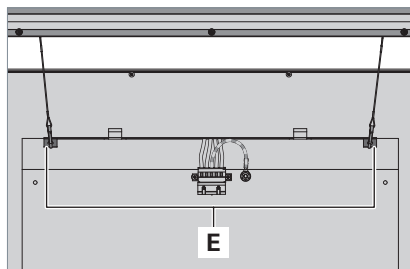

Fig. 7: Mounting the direct light element.
- Hang the direct light element into the two hooks **E** located on the luminaire frame, see Fig. 7.